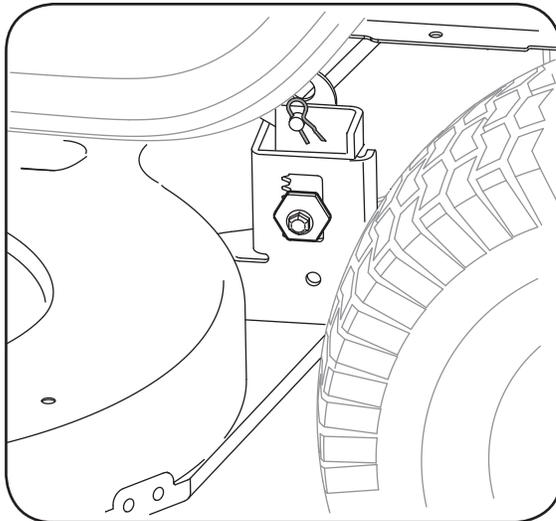

Figure 6-3
4. Looking at the cutting deck from the left side of the tractor, locate the hair pin clip that secures the deck support rod on the rear left side of the deck. See Figure 6-3.